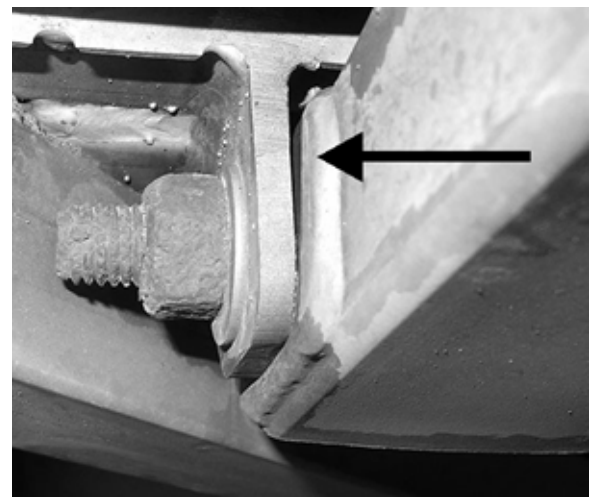

FIGURE 18: VISIBLE GAP ON TRANSVERSAL SCREW JOINT
5. On the transversal screw joints (Figure 18) any visible gap between cradle support tubing and vehicle frame mounting lugs is not acceptable.